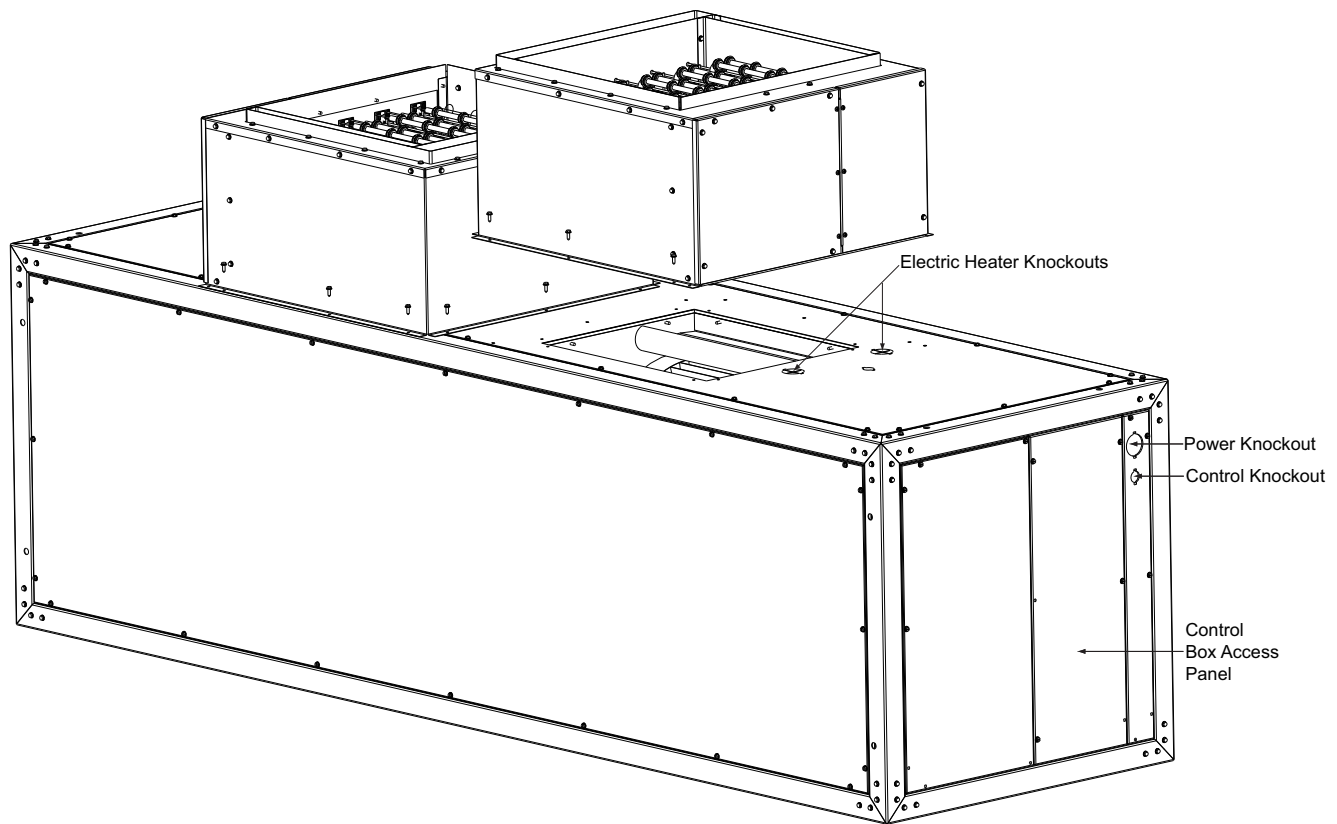

FIGURE 2 - ACCESSORY INSTALLATION (20 TONS)
Install these electric heat accessories per the following step by step procedures and the illustrations shown in Figures 2, 3, 4 and 5.
8. Remove the four (x4) 1 23/32" knockouts from the top of the air handling unit. Refer to Figure 2 for locations.
10. Set the heater cabinets on top of the unit as shown in Figure 2.